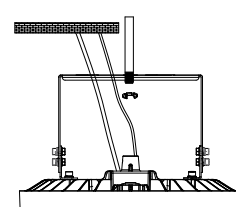

Fig 11
4. After installation, connect the wire of the fixture to the mains according to local wiring rules, ensure the connection. By adjusting the brackets screws, user can adjust 50° to the left or right vertically (Fig 11)